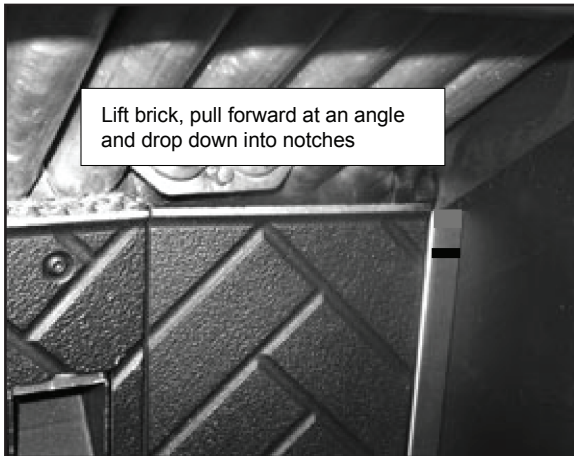

Figure 22.1
3. Lift slightly and pull the right edge of the brick forward until it stops and then drops down into both top and bottom notches of right bracket and locks into place. **Figures 22.1 and 22.2.**